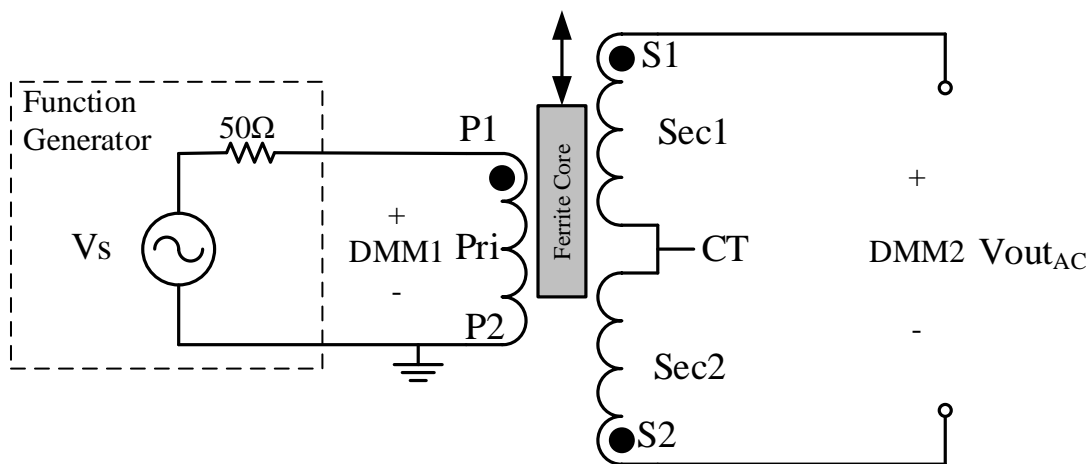
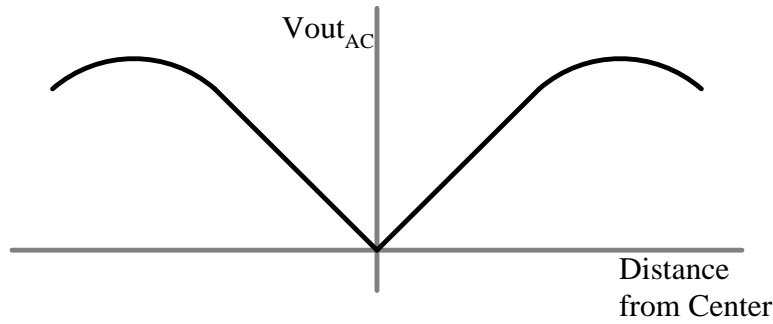

Figure 4. LVDT Series-Opposition Connections
Figure 5. Transfer Characteristic for Series Opposition Connection
One method of utilizing the LVDT signals is to connect the secondaries in a series opposition connection as shown in Figure 4. Notice the polarity “Dotting” of the windings. In this configuration, the output voltage, V_{out} , will be zero when the ferrite core is in the center of the secondary windings. This is due to the secondary voltages being equal in magnitude but exactly 180° out of phase. As the ferrite core is moved through the windings, the secondary winding that is nearest the core will produce the greatest output voltage. If the output voltage is plotted as a function of core position, a characteristic curve similar to that shown in Figure 5 will result.
As shown in Figure 5, there exists a region on either side of the center in which the characteristic curve is nearly linear and can be used for determining the position of the ferrite core within the LVDT. Due to the resistance of the signal source it is more accurate to plot the ratio of V_{out} to the primary voltage as the y-axis variable.
2. Construct the circuit shown in Figure 4.
4. Connect a DMM to the input and output of the LVDT (DMM1 and DMM2 as shown in Figure 4.)